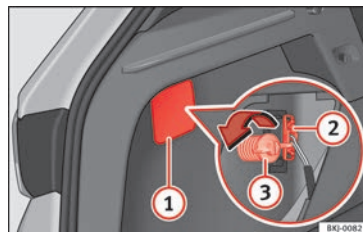
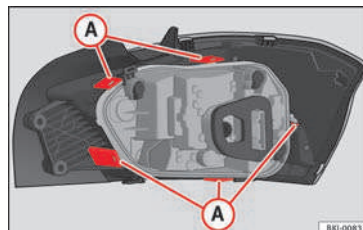

Fig. 100 Luggage compartment: access to the bolt securing the tail light unit.
Fig. 101 Retaining tabs on reverse side of tail light.
3. Remove the lid, levering it with the flat side of a screwdriver into the recess » **Fig. 100 ①**.
4. Remove the bulb connector **②**.
5. Unscrew the light securing bolt by hand or using a screwdriver **③**.
7. Remove the bulb holder unlocking the retaining tabs » **Fig. 101 A**.
① CAUTION